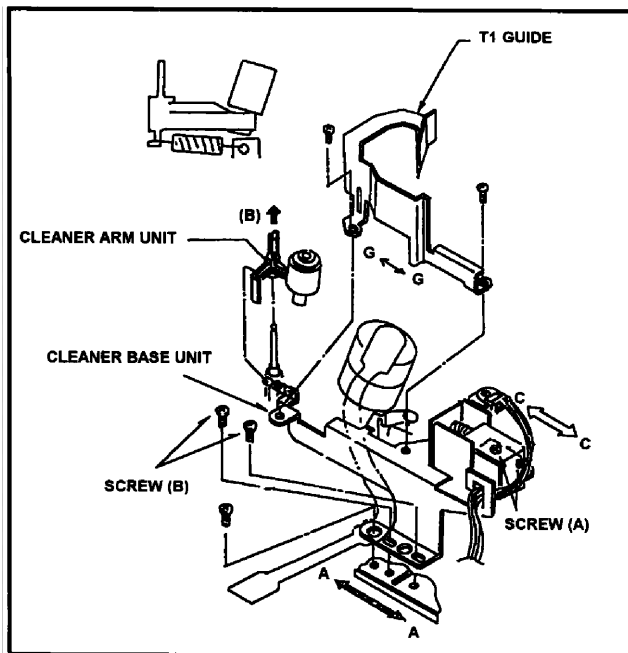

Fig.M20
3. Unscrew the 2 screws (A) and remove the Cleaner Solenoid Unit as shown in Figure M20.
4. Unscrew the 2 screws (B) and remove the Cleaner Solenoid as shown in Figure M20.